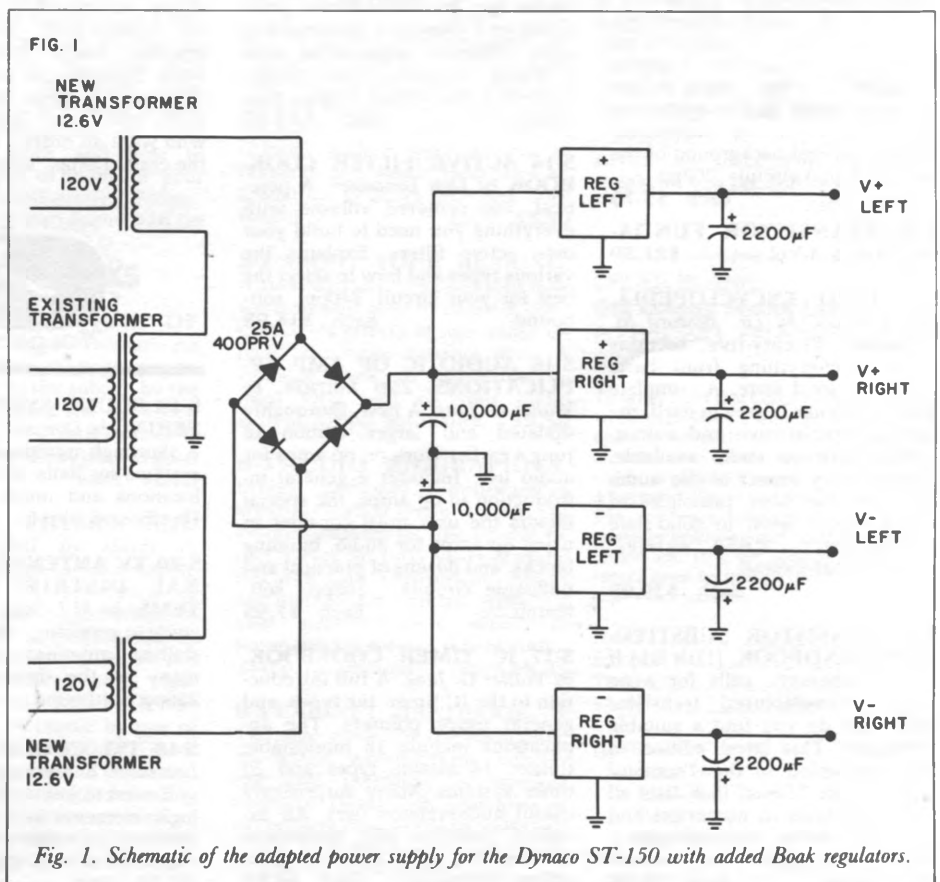

Fig. 1. Schematic of the adapted power supply for the Dynaco ST-150 with added Boak regulators.
3. Wire them as shown in Fig. 1. The voltage across the combination from centertap should be 12V AC higher than the old value; if it is not, reverse the secondary windings.